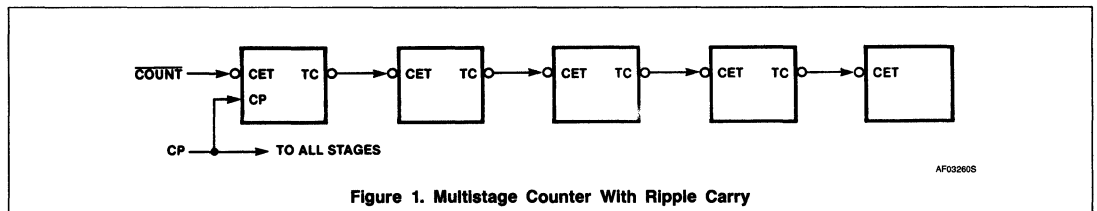

Figure 1. Multistage Counter With Ripple Carry
Two types of outputs are provided as overflow/underflow indicators. The Terminal Count (TC) output is normally High and goes Low providing CET is Low, when the counter reaches zero in the Down mode, or reaches maximum (9 for the 'F568, 15 for the 'F569) in the Up mode. TC will then remain Low until a state change occurs, whether by counting or presetting, or until U/D or CET is changed. To implement synchronous multistage counters, the connections between the TC output and the CEP and CET inputs can provide either slow or fast carry propagation. Figure 1 shows the connections for simple ripple carry, in which the clock period must be longer than the CP to TC delay of the first stage, plus the cumulative CET to TC delays of the intermediate stages, plus the CET to CP setup time of the last stage. This total delay plus setup time sets the upper limit on clock frequency. For faster clock rates, the carry look-ahead connections shown in Figure 2 are recommended. In this scheme, the ripple delay through the intermediate stages commences with the same clock that causes the first stage to tick over from max to min in the Up mode, (or min to max in the Down mode), to start its final cycle. Since this final cycle takes 10 ('F568) or 16 ('F569) clocks to complete, there is plenty of time for the ripple to progress through the intermediate stages. The critical timing that limits the clock period is the CP to TC delay of the first stage plus the CEP to CP setup time of the last stage. The TC output is subject to decoding spikes